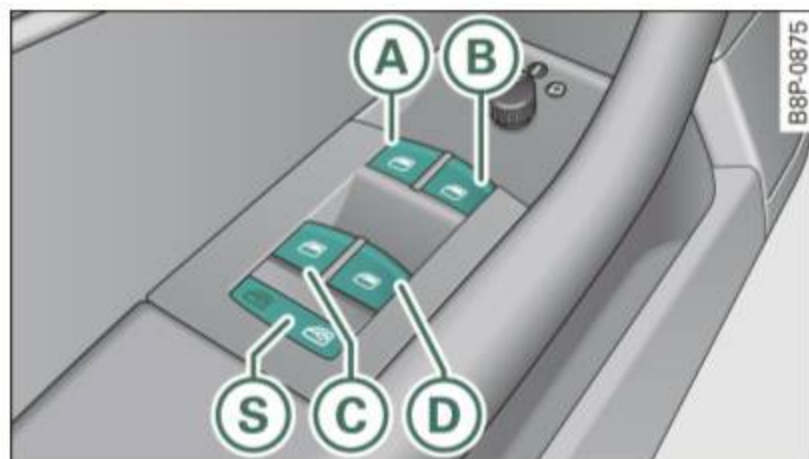

Fig. 40 Driver's door: power window switches
In addition to the switches in the driver's door, there is a separate switch in each door for the power window in that door ⇒ fig. 40. If the respective switch is pushed or pulled, the window will open or close. The power window switches have a **two-position function**:
The safety switch (S) ⇒ page 49, fig. 40 in the armrest on the driver's door turns off the rear power windows. Only when the safety switch is depressed can the rear windows be opened or closed. The symbol in the safety switch illuminates when the power windows in the rear doors are switched off (button NOT depressed). This feature has been provided for the safety of small children riding in the rear of the vehicle.